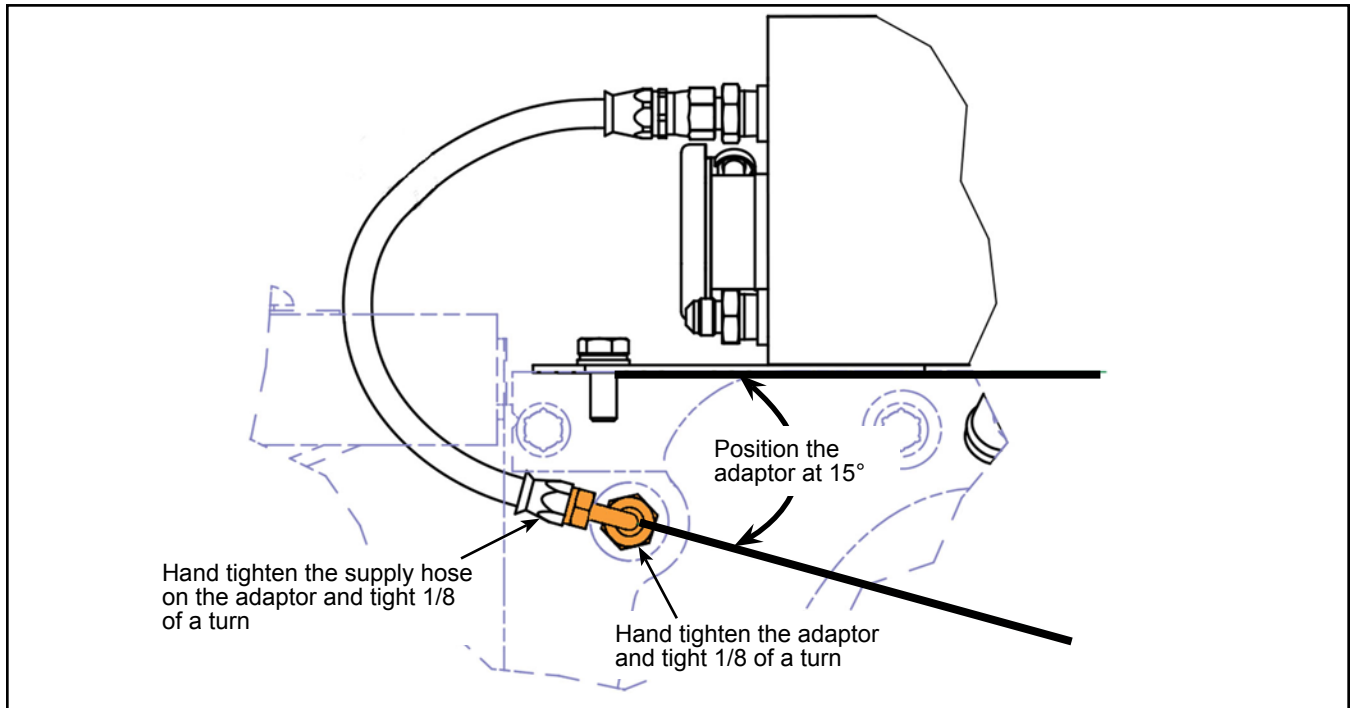

Figure 8 - Position of the Adaptor on the Radiator Collector and Supply Hose Installed
- 1.18. Remove the small piece of cloth. Hand tighten the retained adaptor on the radiator collector and, with a wrench, make 1/8 of a turn to fully tighten. See Figure 8 for the position of the adaptor.
- 1.19. Hand tighten the supply hose on the adaptor and with a wrench, make 1/8 of a turn to fully tighten. See Figure 8.